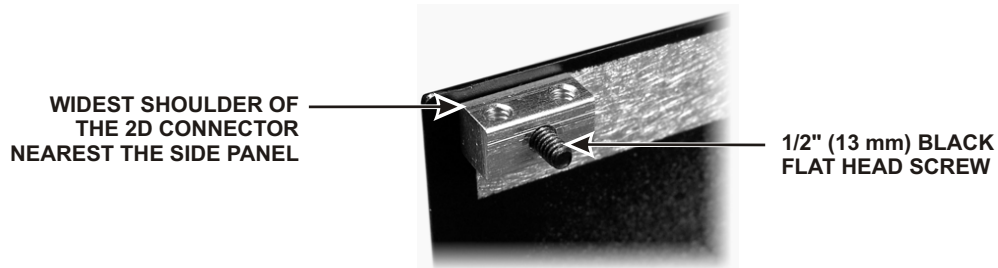

Figure 20. Mounting 2D fastener for KANT3 Standoff.
□ At the upper rear corner of the side panel you just identified in the previous step, mount a 2D fastener as shown in Figure 20, using a black 4-40 1/2" (13 mm) flat head screw. Remember that flat head screws are measured from the flat top to the end of the threads. Note that the screw extends some distance through the 2D fastener.